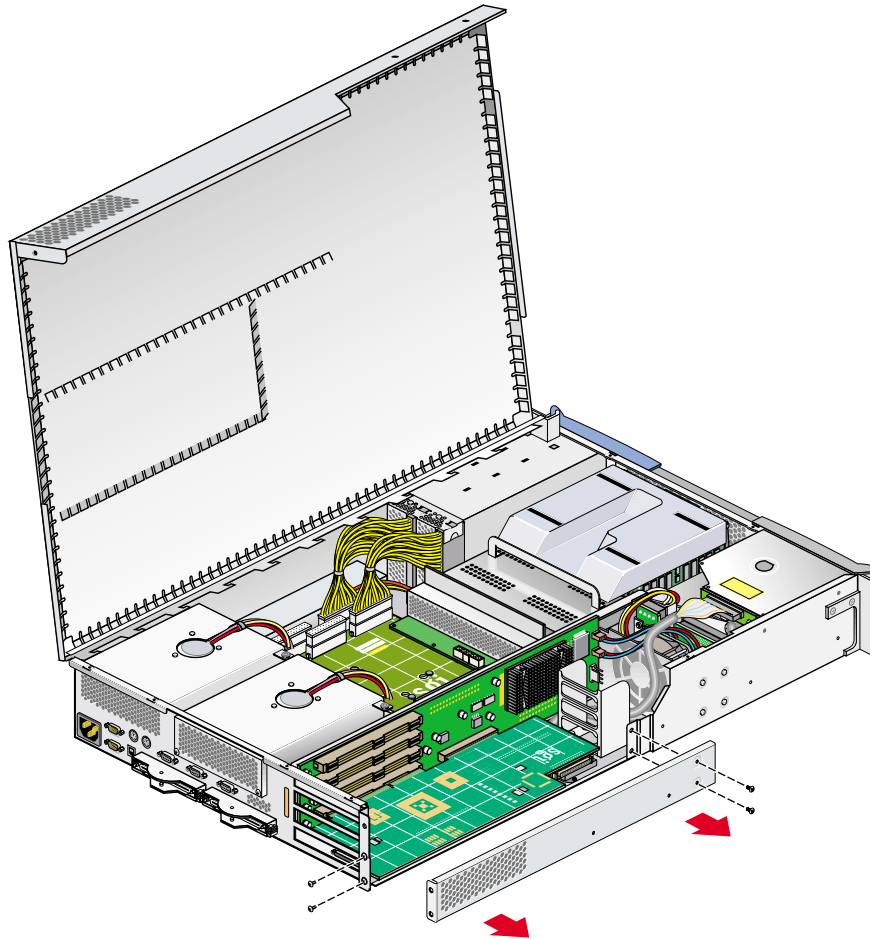

Figure 6-12 Removing the Lower PCI/PCI-X Support Bracket
8. If you are removing a card from one of the two lowermost slots, you must also remove the lower PCI/PCI-X support bracket that covers the two lowermost slots by unscrewing the four Phillips screws, as shown in Figure 6-12.